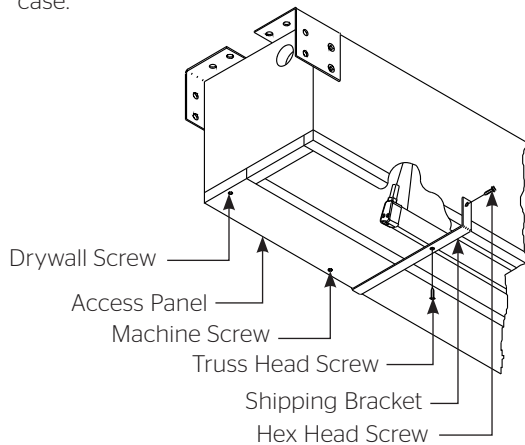

Figure 1
3. Detach access panel by removing screws (Figure 1).
1. Remove the two screws holding the junction box cover. Located on the left end of the case (see Figure 1).